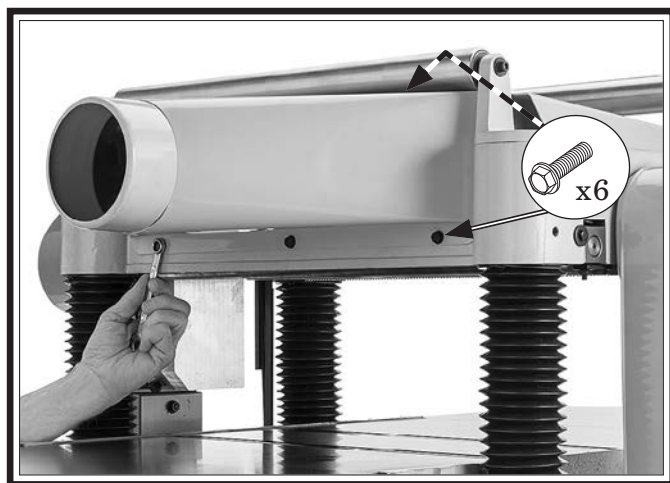

Figure 20. Installing dust port (3 of 6 fasteners shown).
11. Attach dust hood to planer with (6) M6-1 x 12 flange bolts (see **Figure 20**).